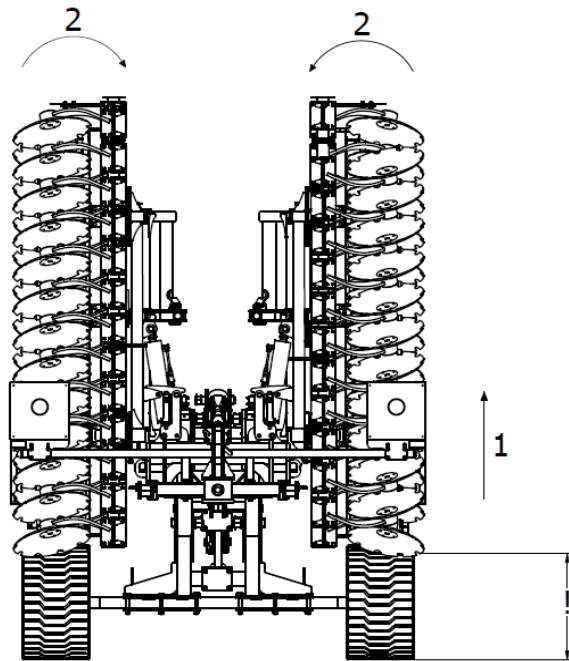

Fig. 6 Machine opening sequence: 1- lift the machine up to its maximum, 2- fold the machine wings into the "closed" position.
1. The machine must be raised as much as possible to enable it to be folded correctly, avoiding the risk of the folding arms catching on the ground during movement (fig.6).
2. The next step is to hydraulically fold the wings of the machine into the 'closed' position, the purpose of which is to ensure that the wing lock mechanism unlocks and allows the machine arms to be opened at a later stage. This operation is necessary every time the arms of the unit are opened (fig. 6).